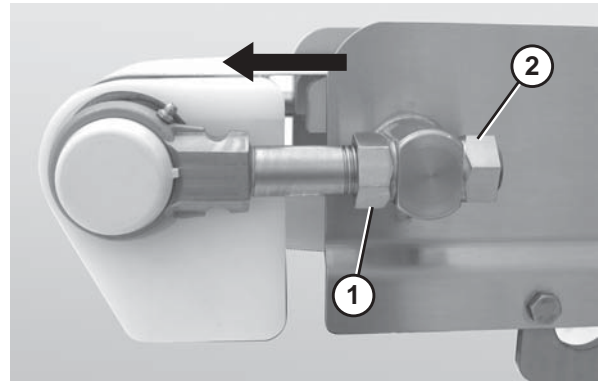

Figure 52
- Turn the front nuts closest to the tail (**Figure 52, item 1**) clockwise in order to increase tension on the belt.
- Tighten the back nuts (**Figure 52, item 2**) to secure the tail.
1. Loosen the back nut (**Figure 52, item 2**) on the idler tail shaft that needs to be adjusted.
2. Tighten or loosen the front nut (**Figure 52, item 1**) on the idler tail shaft adjust the belt tracking.